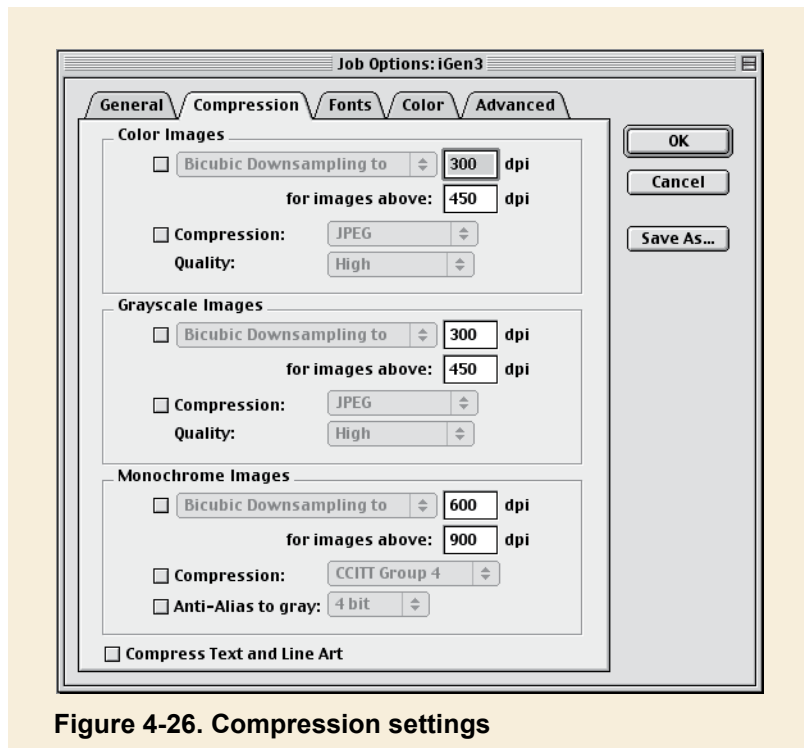

Figure 4-26. Compression settings
- **Compression settings** - (Figure 4-26) compression is generally NOT recommended. This is to preserve the best image quality. Consult with your print provider if compression is needed and get their preferred settings.